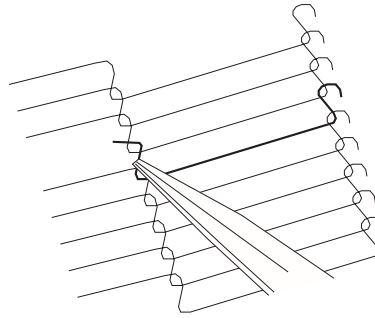

Figure 4-21. Outer Master Link Connection
5. Reconnect the outer master links, as shown in Figure 4-21.